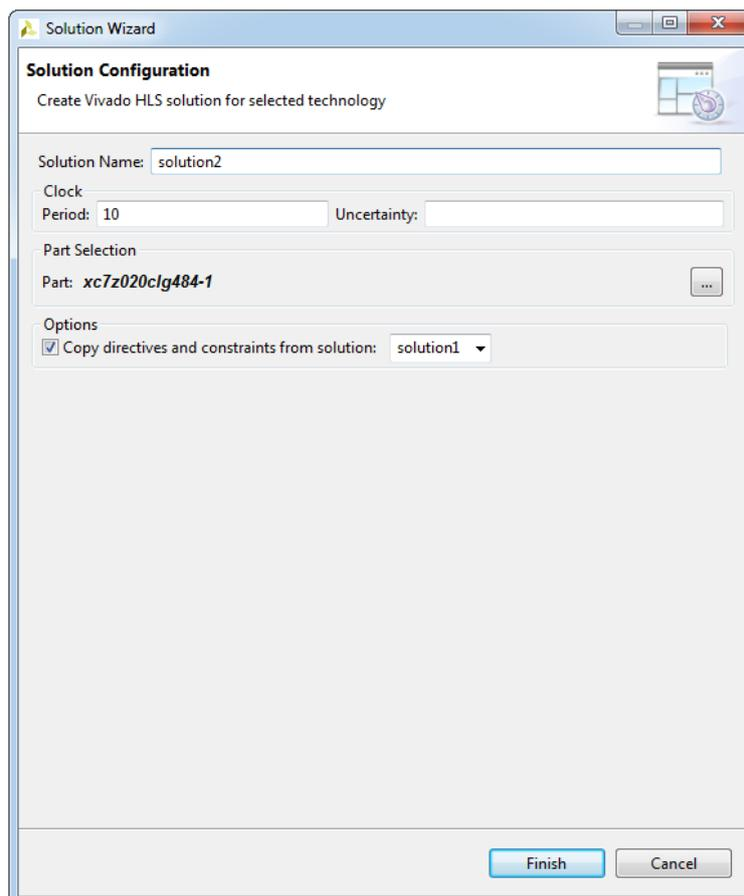

Figure 2.37: Solution Configuration dialog box
Step 2. In the **Solution Configuration** dialog box, leave all parameters unchanged and click **Finish**, as it is shown on the Figure 2.37.